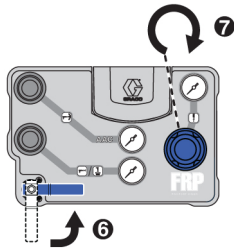

FIG. 28
7. Turn the main air supply ball valve to the open position. See FIG. 28.
8. Slowly turn the main air supply pressure regulator clockwise until the main air supply pressure gauge reads the desired pressure. See FIG. 28.